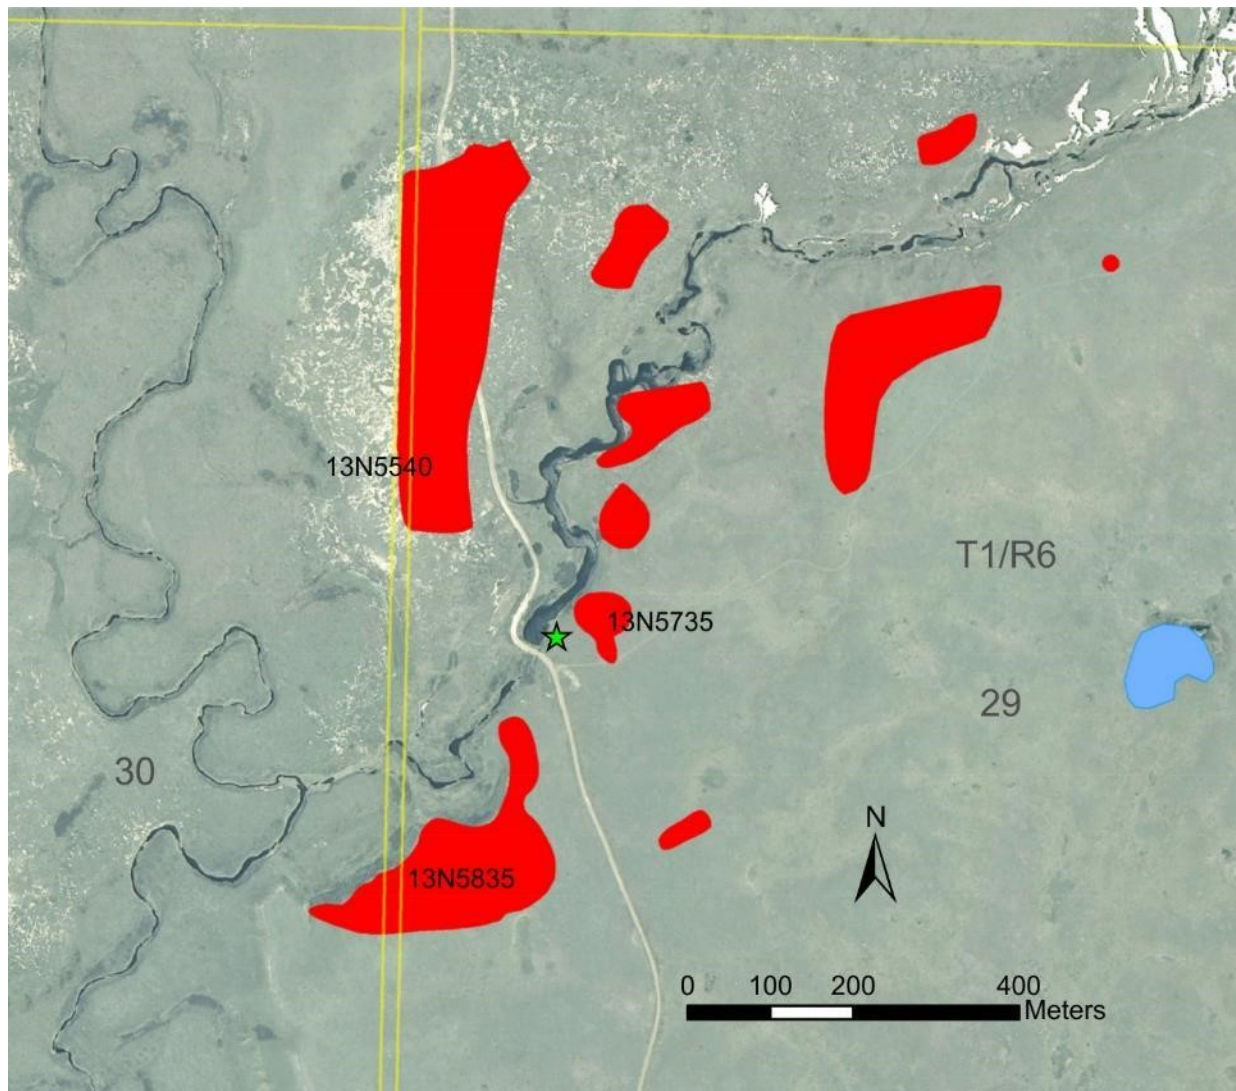

Figure 1: Location of Southview Creek road crossing #5 (star), showing known archaeological sites in red.
- 13.3. Laydown/staging/turnaround areas should be at least 100m from the mapped edges of any of the archaeological sites shown in figure 1.